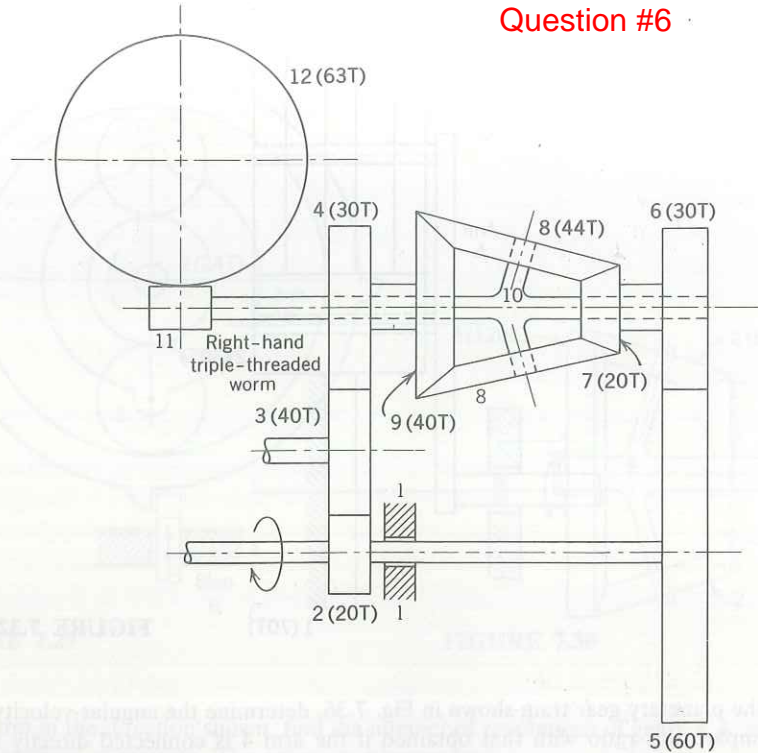

FIGURE 7.34
7.18. In the mechanism in Fig. 7.34, gear 2 rotates at 60 rpm in the direction shown. Determine the speed and direction of rotation of gear 12.
7.47. In Fig. 7.34, 5 hp is transmitted to gear 2, which turns at 60 rpm in the direction shown. Determine the power circulating in the branch control circuit and make a schematic power flow diagram. Arm 10 is the output shaft.